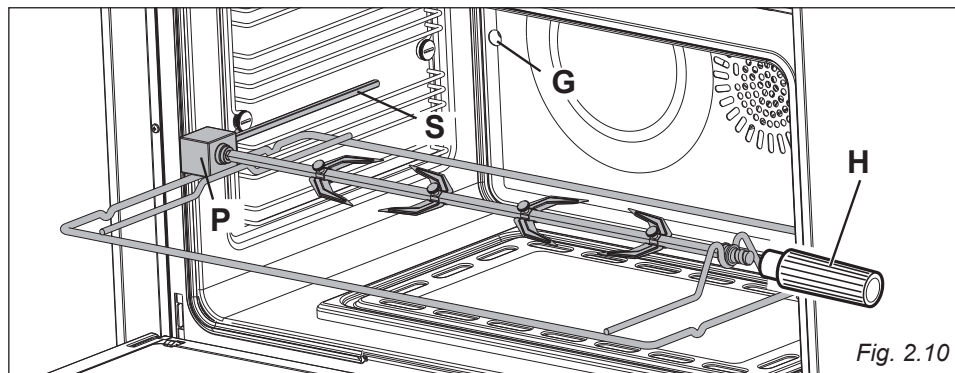

Fig. 2.10
## USE OF THE ROTISSERIE (fig. 2.10)
- Insert the rod into the side gear opening "P" (fig. 2.10).